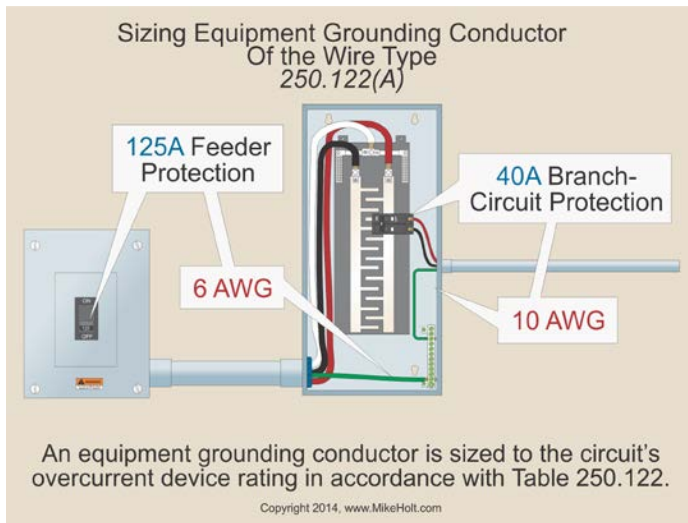

Figure 250–209
(A) General. Equipment grounding conductors of the wire type must be sized not smaller than shown in Table 250.122, based on the rating of the circuit overcurrent device; however, the circuit equipment grounding conductor isn't required to be larger than the circuit conductors. Figure 250–209